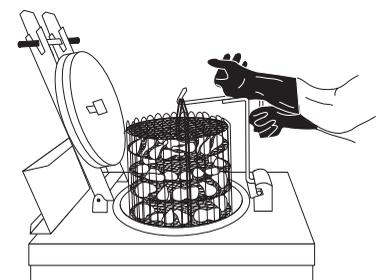

FIGURE 13
**⚠ DANGER:** Use safety gloves and basket drain hook to lift basket out of cooking oil. Rest basket on drain hook in lid lock block at 45° angle draining excess surface oil for 15 seconds (Figure 13).